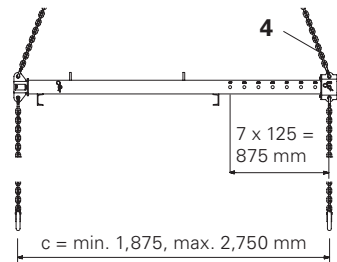

Fig. 9
- The beam length  $c$  corresponds to the console bracket spacing  $c$  of the climbing unit. (Fig. 9 + 11)
- To adjust the climbing beam 9 t, place it on a suitable substrate. The crane lifting gear (4) must not be taut, even after adjustment.
- Spacings between 187.5 cm and 275 cm are adjusted on the outer tube by means of the slider (5). The inner tube (2) is completely retracted and secured in position.
(Fig. 9)